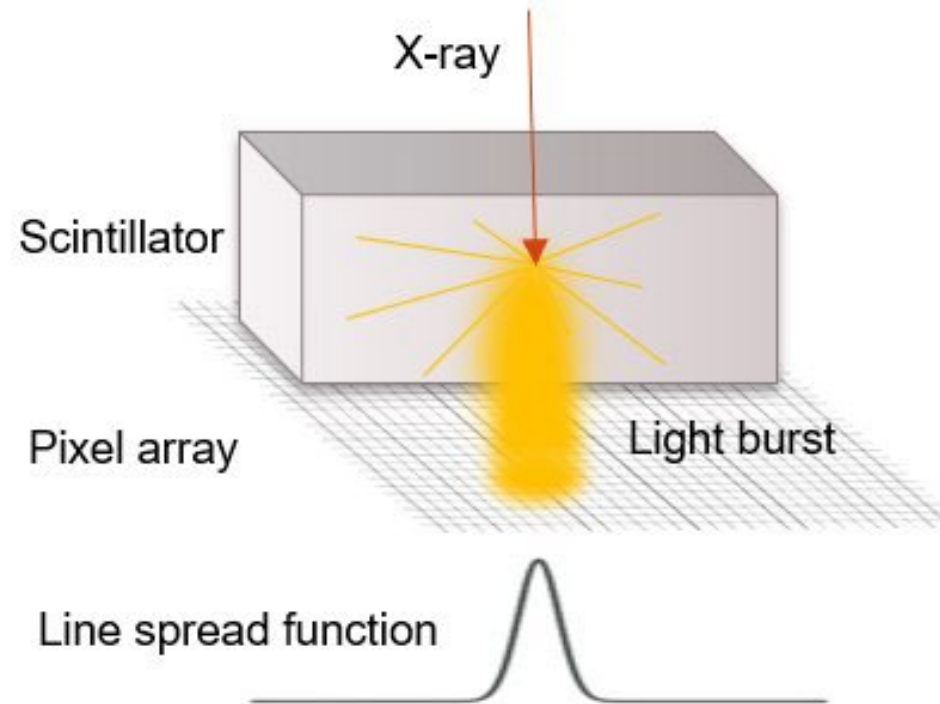

Fig. 21 – Light spread in the scintillator
- Light in the scintillator is spread, which causes degradation of the spatial resolution (Fig. 21).